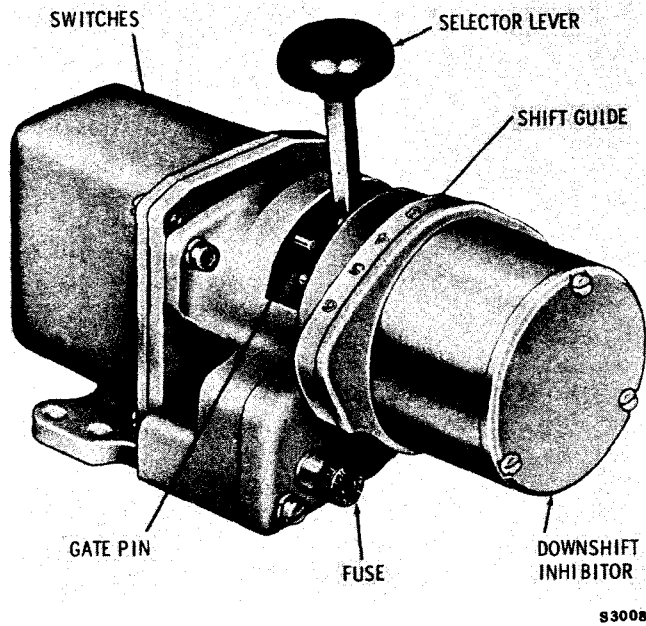

Fig. 1-2. Manual selector assembly
assembly in the vehicle cab (fig. 1-2), and a wiring harness 85 (B, foldout 1), connecting the selector and valve body. These components are available either as an option on current transmissions, or for installation on transmissions originally equipped with other control systems.
c. Power Source. Electrical power for actuation of the control system is supplied by the vehicle electrical system. Electrical components to match the vehicle system voltage (12 or 24 volts DC) are provided in the control system. An SFE 9A fuse is provided in the selector assembly (fig. 1-2). Earlier selector assemblies do not include a fuse, and the power input circuit must include a fuse.